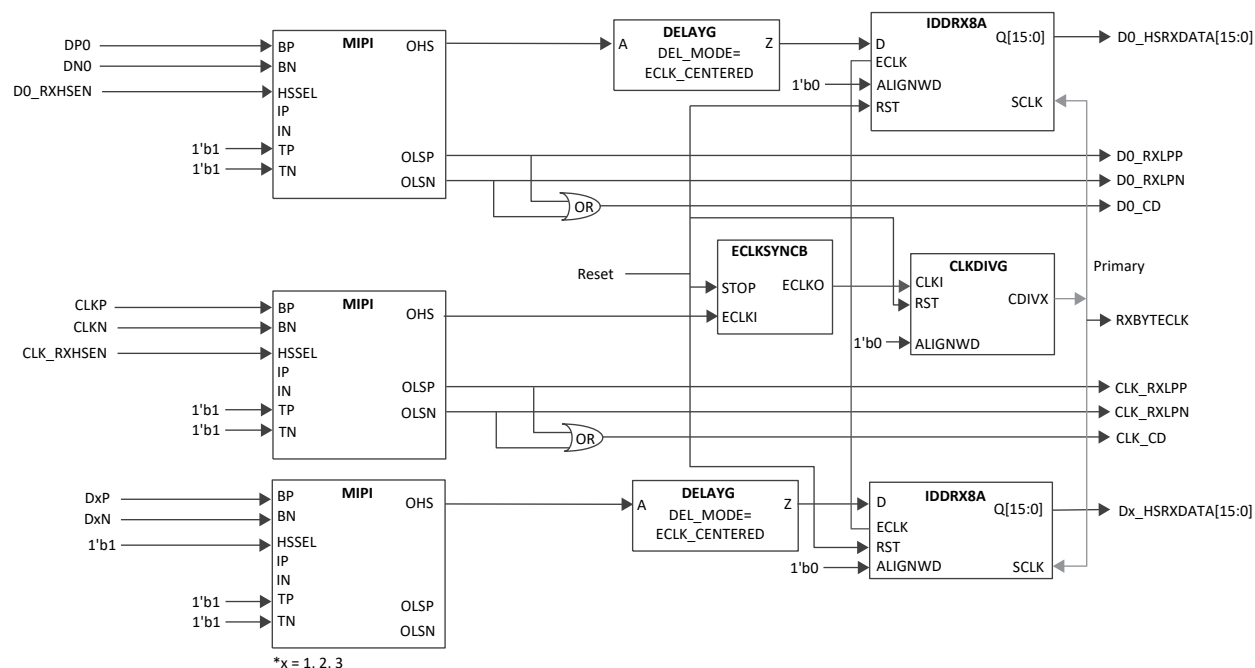

Figure 5.15. MIPI CSI-2 Receive Interface with Soft D-PHY Module
- The RXHSEN inputs to the interface block are tied to the HSEL input of the MIPI buffer to switch between the High-Speed and Low-Power modes. The transitions between High-Speed (HS) and Low-Power (LP).
- The OLSP and OLSN outputs of MIPI are active and transmitting data on the RXLPP and RXLPN ports to the fabric as shown in Figure 5.15. The OLSP and OLSN states are also used to generate the D0_CD or CLK_CD signals which can be monitored by the fabric for contention detection.
Note: Figure 5.15 shows the X8 gearing interface. X4 is similar but uses the IDDRX4C primitive.